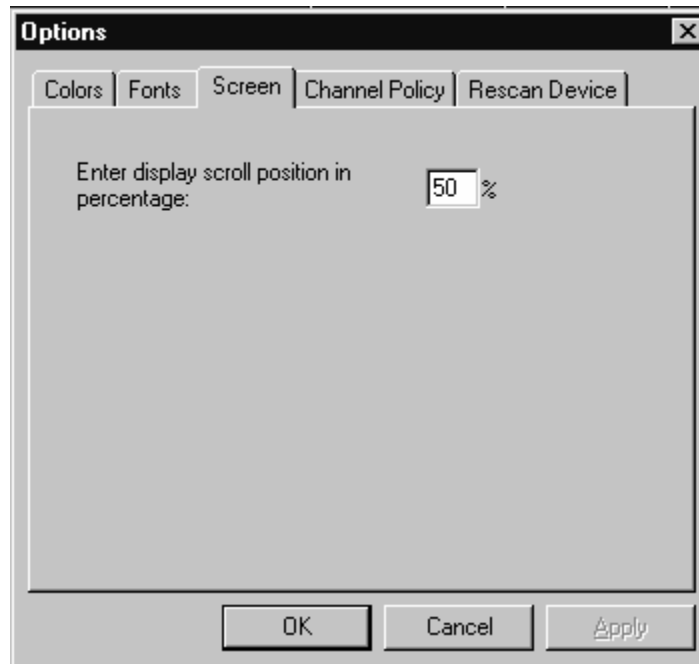

Figure 20 Options Dialog Box Screen Tab
2. Select the Screen tab, as shown in Figure 20.